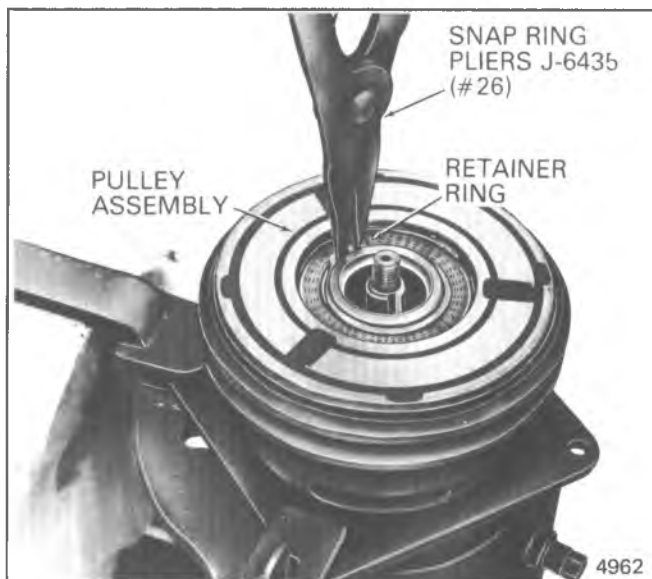

Fig. 1D-12 Removing A-6 Pulley Retainer Ring
2. Remove pulley retainer ring, using Snap-Ring Pliers J 6435 (#26), Fig. 1D-12.